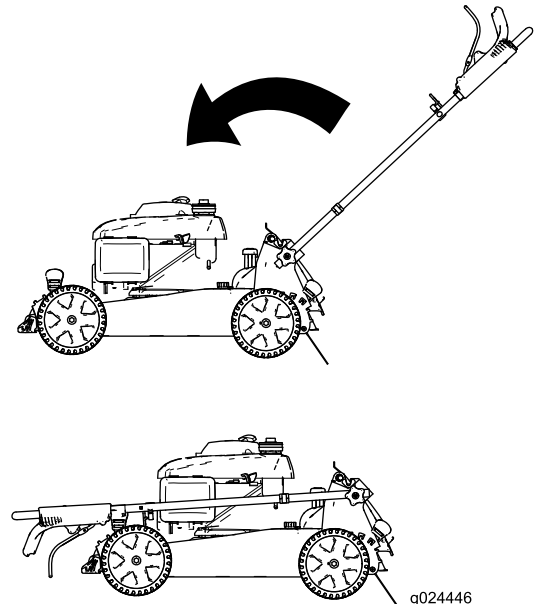

Figure 27
2. Fold the handle to the fully forward position as shown in Figure 27.